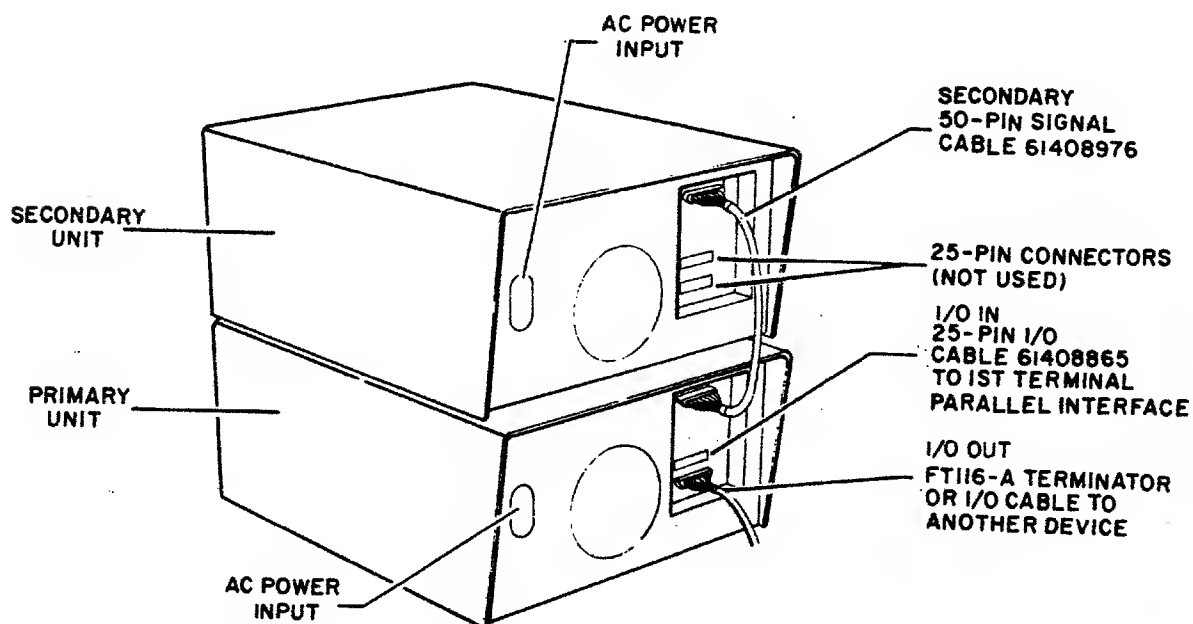

Figure 3-3. I/O Cable and Terminator Installation
5. Refer to figure 3-3 and install I/O cable and terminator assembly per the following as applicable: